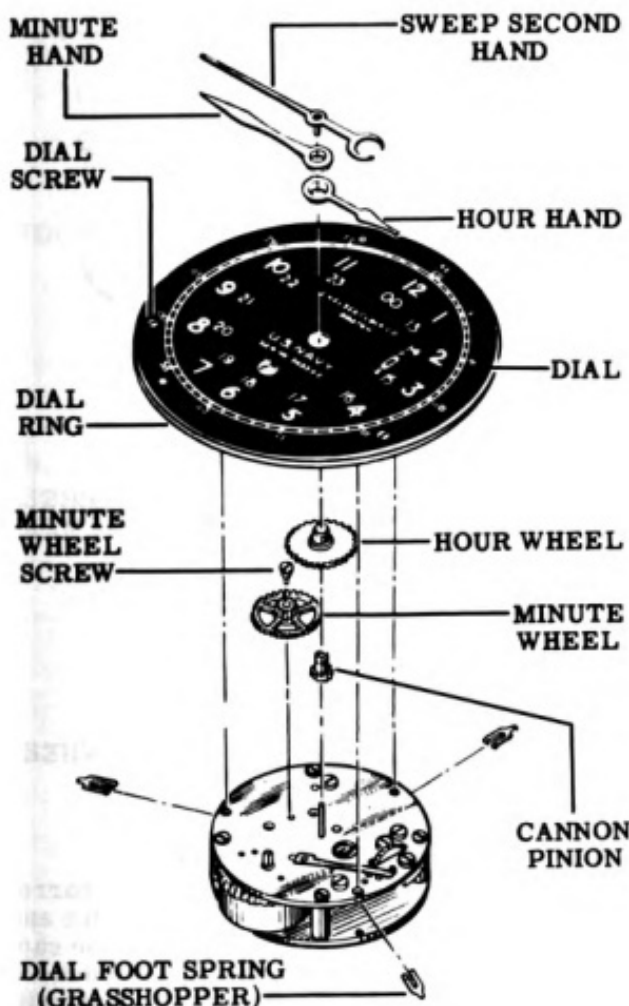

Figure 15.
ring feet to the front plate of the movement. With a pair of needle nose pliers, turn each grasshopper so that the head points away from the center of the dial and pull the grasshoppers completely off each of the three dial feet. Refer to Fig. 15.
7. Lift off the dial with the attached dial ring. See Fig. 15 for the relative positions of the parts involved. For purposes of repair, the dial may be separated from the dial ring by removing the three dial screws—otherwise the two parts are not ordinarily disassembled for purpose of cleaning.
1. Before any disassembly work is done on the movement, it is necessary to let down the mainspring. Since the hour wheel is loose on the cannon pinion, first lift off the hour wheel. See Fig. 15.
2. With the movement in the work block, dial side up, unscrew the minute wheel screw and remove the minute wheel. See Fig. 15.